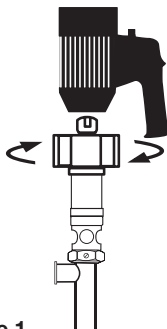

Figure 1
3. Couple the electric motor to the pump using the hex nut (see Figure 1).